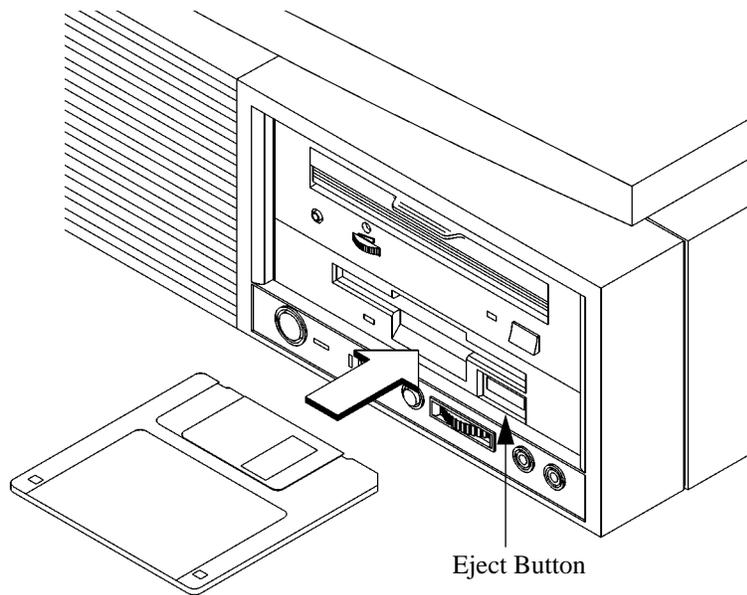

Figure 23
- 1 Insert the diskette into the drive, as shown in Figure 23.
- 3 To remove the diskette, push the eject button, as shown in Figure 23, then remove the diskette.